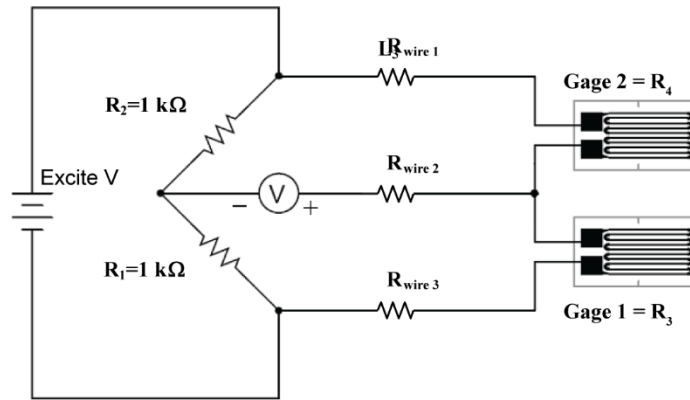

FIGURE 7-16. Half-bridge bending strain circuit
The half-bridge bending strain configuration is shown in FIGURE 7-16. It is used solely to measure bending strain. The two gages should be positioned on opposite sides of the member being measured such that they experience strains of equivalent magnitudes, but in opposite directions, as the member is bent. In other words, one gage would undergo compression while the other gage would experience tension. The backplane of the Wheatstone bridge ( $R_1$  and  $R_2$ ) can be made up of a matched pair as is done in the Campbell Scientific's 4WFBS TIM modules.
**Half-Bridge Bending CRBasic Programming:** A program for measuring half-bridge bending strain, along with zeroing and shunt calibration functions, is very similar to a program for the quarter-bridge strain circuit covered in CRBasic Example 7-3. The only difference is the **BrConfig** option code should be set to **-3** for the circuit shown in FIGURE 7-16, and the function code for the **FieldCalStrain()** function should be set to **33**.